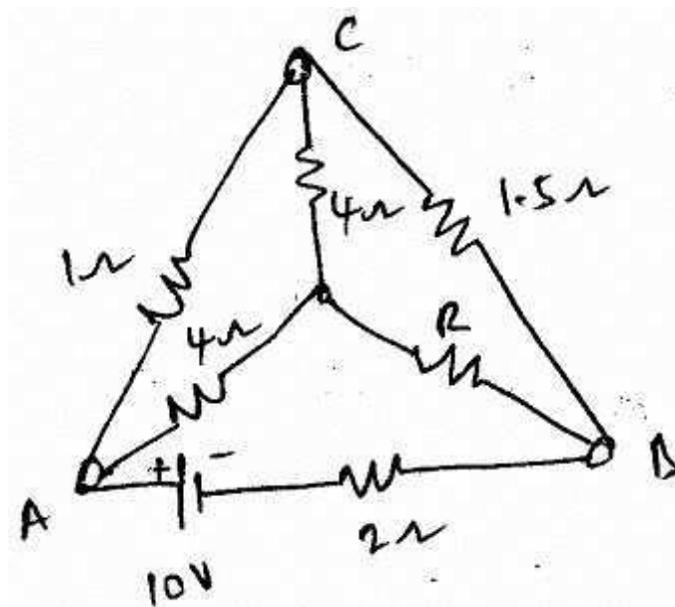

Figure 1:
1. Calculate the unknown resistance R and the current flowing through it when the current in the branch OC is zero.(figure 1) [16]